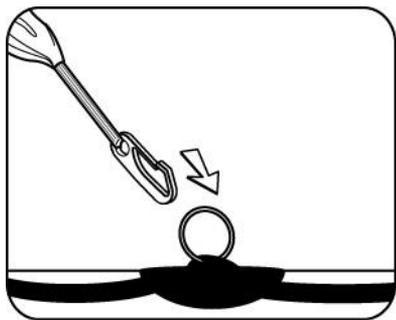

FIGURE 13
6. Affix first two plastic snap hooks on canopy to metal rings on raft (See Figure 13). Ring are located at corners of raft along the lifeline/grasp line.